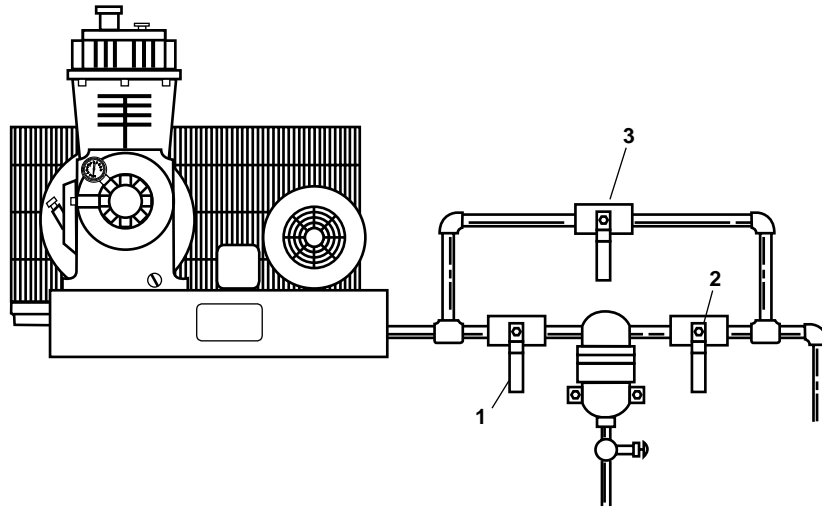

Figure 1. Dryer and Valves
- a. On the out-of-service compressor, CLOSE valve CA-1 or CA-2 COV COMPR DISCH (figure 1, item 1) and valve CA-87 or CA-88 COV-COMPR DISCH (figure 1, item 2). Lock out and tag out the valves (FM 55-502).